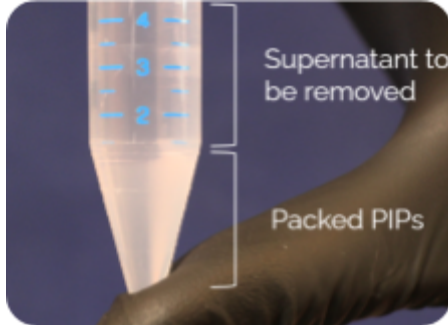

Figure 7. Packed PIPs after centrifuging.
4. Centrifuge the tubes for 2 minutes at 750 x g (use ~70-80% of the maximum braking speed) on a centrifuge with a swinging bucket rotor (e.g. ST40) to pack the PIPs (Figure 7).